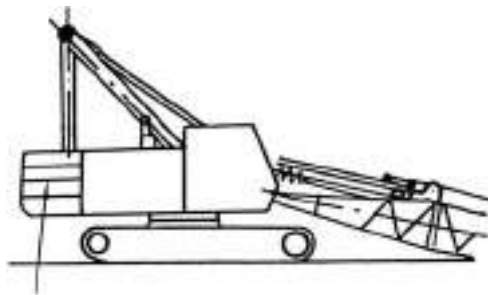

Fig. 7-6
9. Lift up A-frame and mount on the counterweights, as shown in Fig. 7-6.